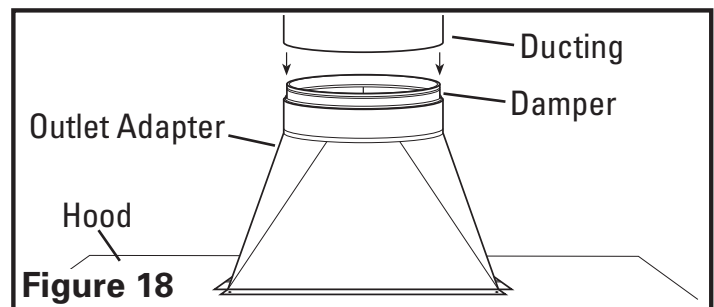

Figure 18
10. Connect the ducting to the outlet adapter and damper. Secure in place using tape to seal all joints (**Figure 18**).